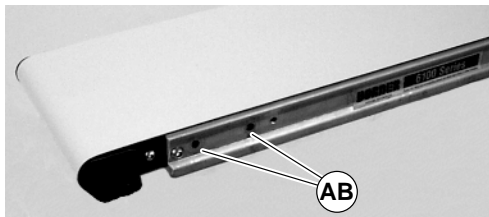

Figure 8
- 4b. On side opposite drive output shaft, remove original factory-installed screws (AB of Figure 8).